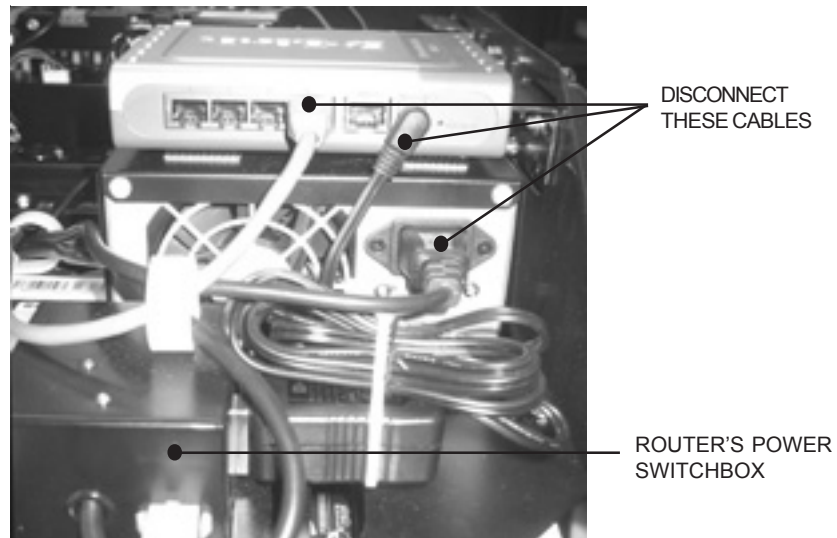

FIGURE 3-1 - LINE CORD LOCATION TO COMPLETELY DISCONNECT POWER
3. Unplug the router power cable and Ethernet cable (see Figure 3.1). Then, remove the 4 screws securing the router's power switchbox. Be careful when removing the switchbox as there are spacers underneath.